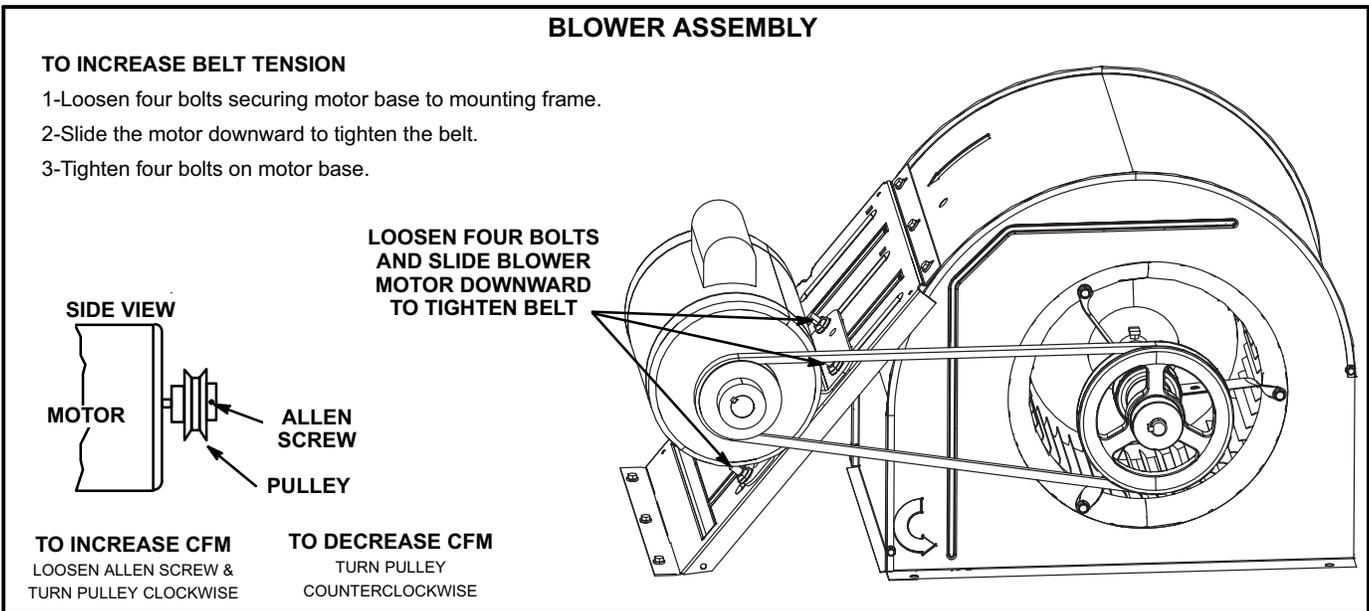

FIGURE 14
- 4- The blower RPM can be adjusted at the motor pulley. Loosen Allen screw and turn adjustable pulley clockwise to increase CFM. Turn counterclockwise to decrease CFM. See figure 14. Do not exceed minimum and maximum number of pulley turns as shown in table 3.
- 1- Loosen four bolts securing motor base to mounting frame. See figure 14.